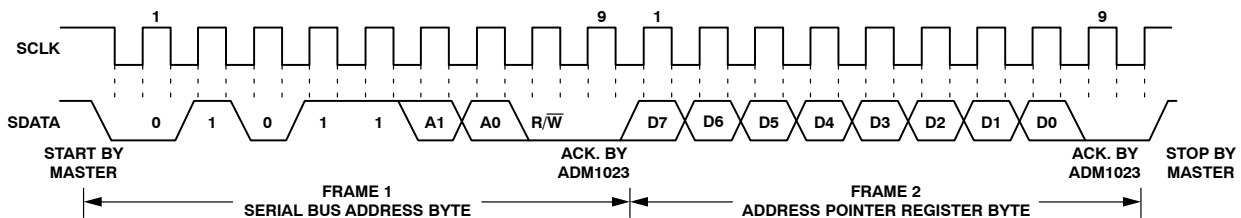
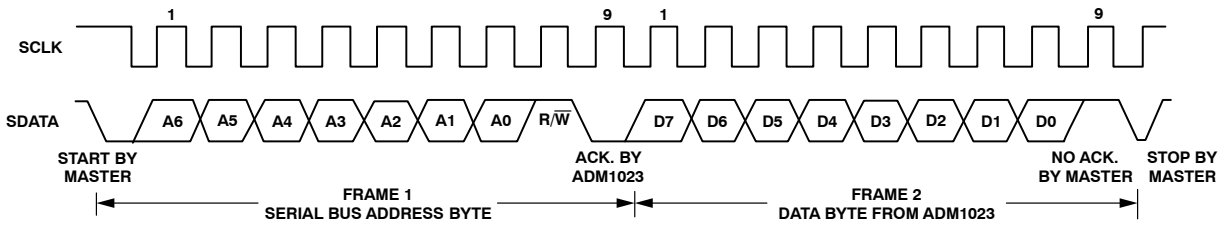

Figure 16. Writing to the Address Pointer Register Only
Figure 17. Reading Data from a Previously Selected Register
1. If the ADM1023's address pointer register value is unknown or not the desired value, it is necessary to set it to the correct value before data can be read from the desired data register. This is done by performing a write to the ADM1023 as before, but only the data byte containing the register read address is sent, as data is not to be written to the register. This is shown in Figure 16. A read operation is then performed consisting of the serial bus address,  $\overline{R/\overline{W}}$  bit set to 1, followed by the data byte read from the data register. This is shown in Figure 17.